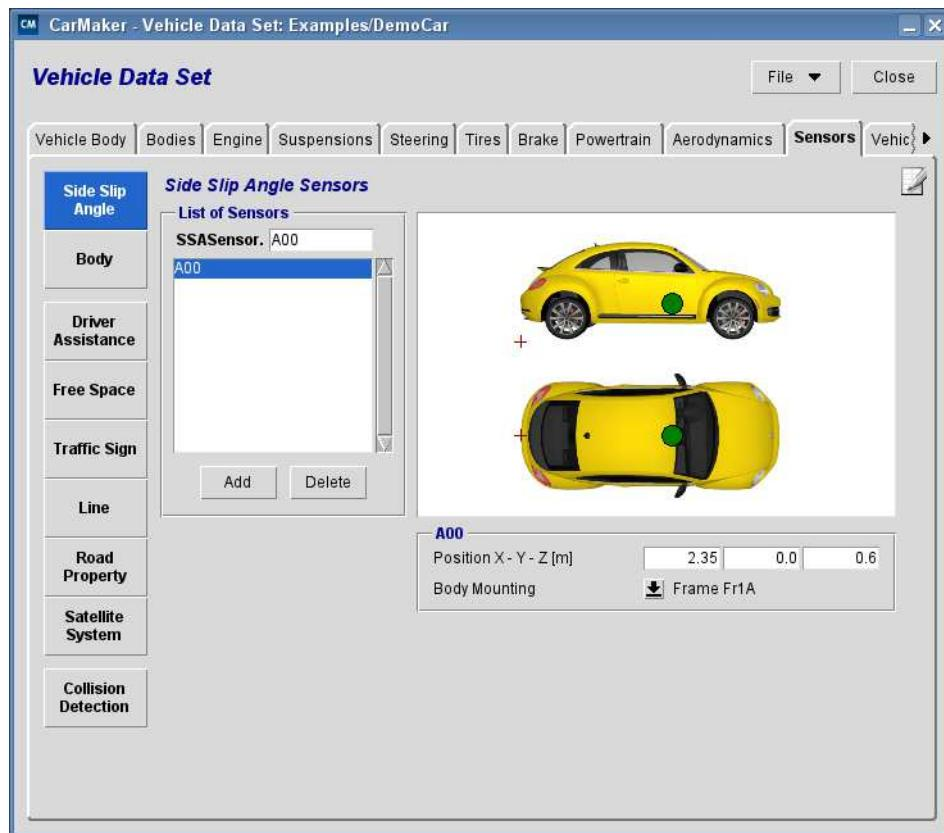

Figure 5.96: Definition of *Side Slip Angle Sensors*
- SSASensor.** Here you can enter a name for the current sensor, to alleviate the identification of the sensor quantities, e.g. in IPGControl. All User Accessible Quantities of this sensor will start with the prefix *Car.SSASensor.Name.\**. In the example in Figure 5.96 the UAQs of this sensor will start with *Car.SSASensor.A00.\**.